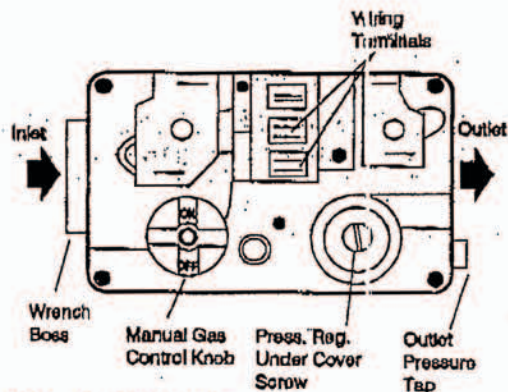

FIGURE 8 - GAS VALVE
2. Refer to Figure 8 for location of pressure regulator adjustment cap and screw on main gas valve.